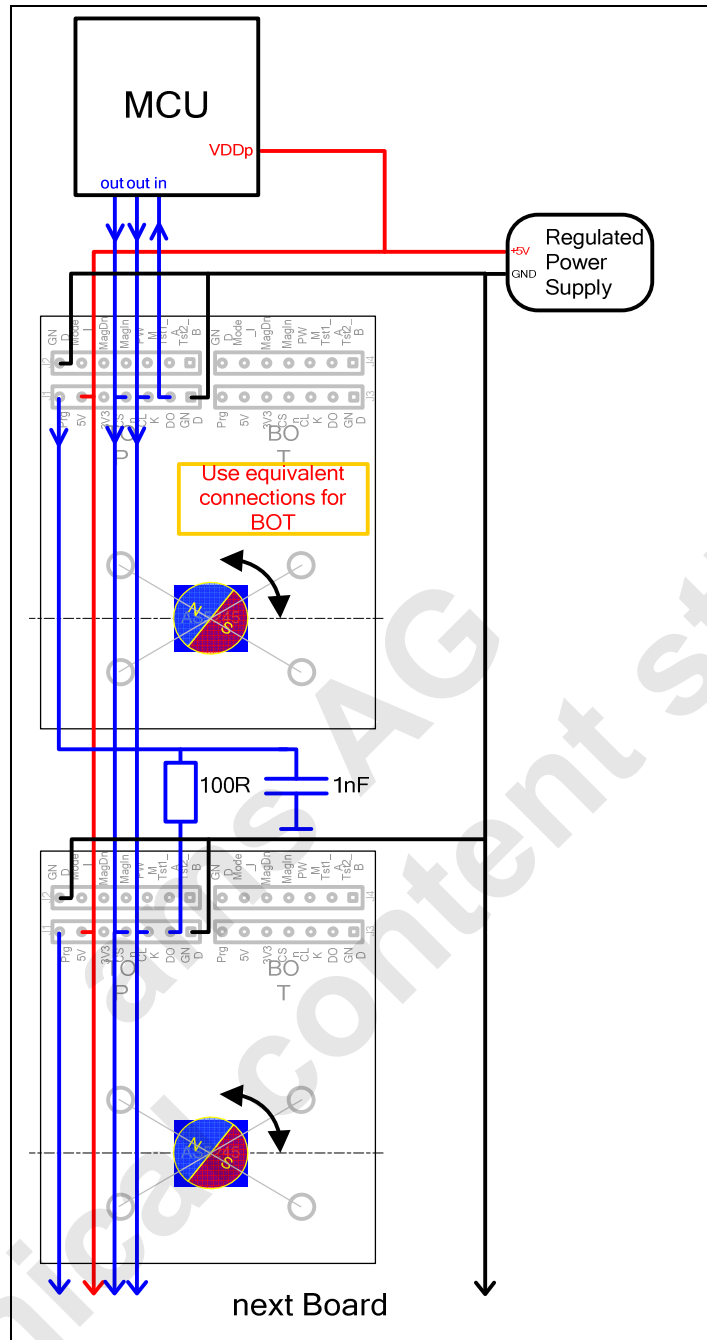
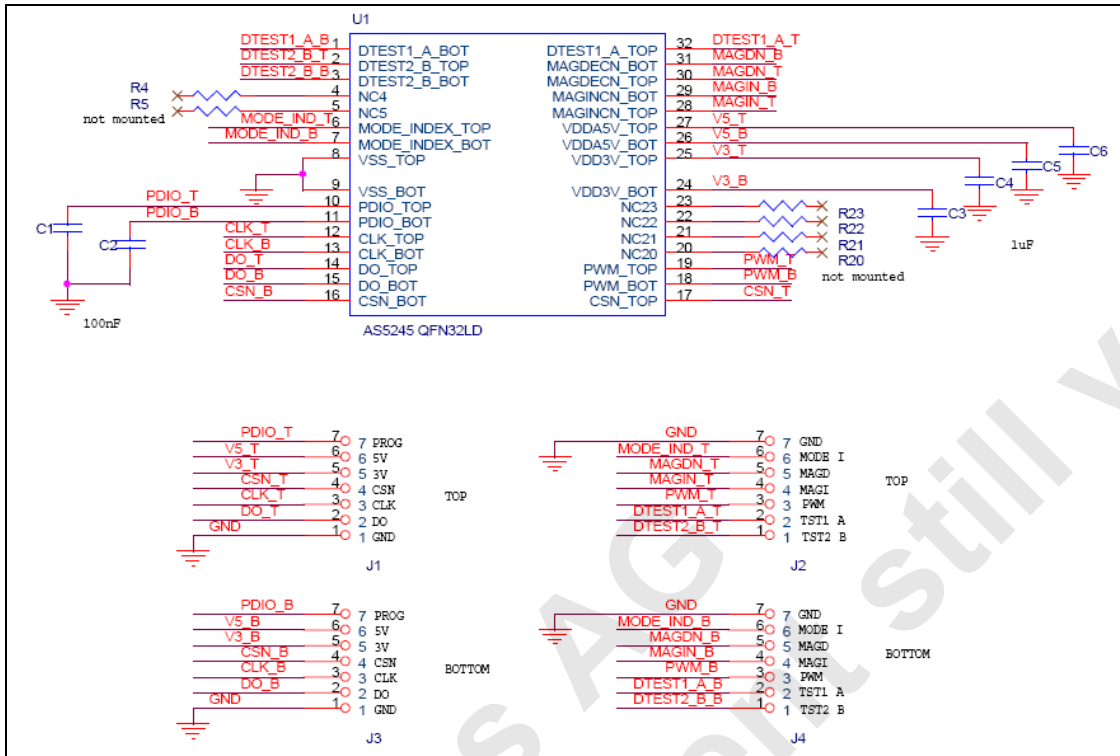

Figure 8: Using Daisy-Chain mode with the adapter board
Figure 10: AS5245-AB-1.0 adapterboard schematics
**In this mode capacitor C2 (refer to Fig.10) must be disconnected when using the 1nF capacitor shown in Fig.8. or directly replaced by this capacitor.**